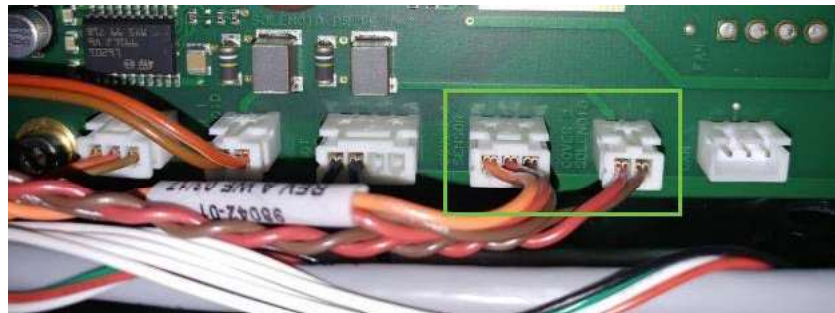

Figure A-4: Connecting the under-deck cable
6. Connect the cable to the circuit board shown in Figure A-4. The three-wire connector goes to the COVER 2 SENSOR port, and the two-wire connector goes to the COVER 2 SOLENOID port.